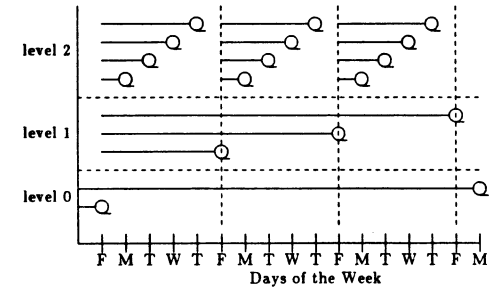

Figure 1. Daily Tapes Grow as the Week Goes By
3.1. THE DAILY TAPES GROW AS THE WEEK GOES BY scheme uses three levels of backup. Level 0 or full dumps are made on the last Friday of the month, level 1 dumps are made on all other Fridays, and level 2 dumps are made on other days. Figure 1 is a graphic representation of this system. The lines show the amount of material that is written to tape, and tape symbols designate days of the week when backups are made.